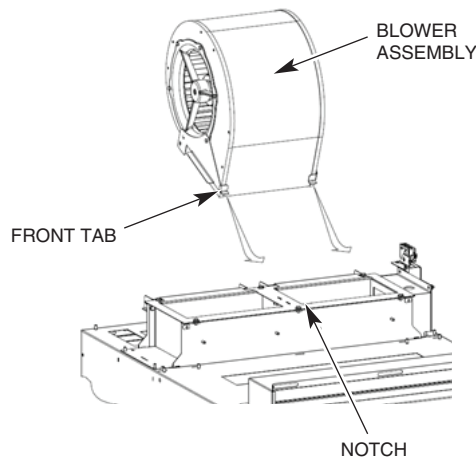

Fig. 25
2. Install one of the blower assemblies on top of the heater housing by lowering the blower assembly on an angle so that the front tabs hook underneath the notches on the top plate of the heater housing (Fig. 25 and 26).